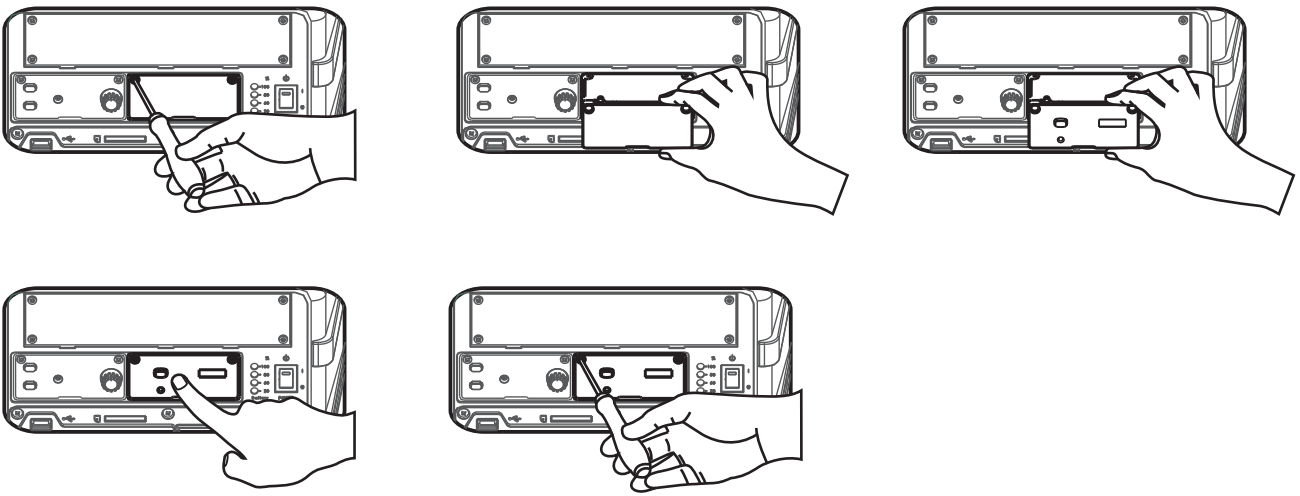

Fig. 12
2. Installation, Fig. 12.
- (A) Remove screws from blank panel.
- (B) Remove blank panel.
- (C) Insert the Interlinking Transmitter module horizontally.
- (D) Gently push in until it is aligned into place.
- (E) Tighten the screws.